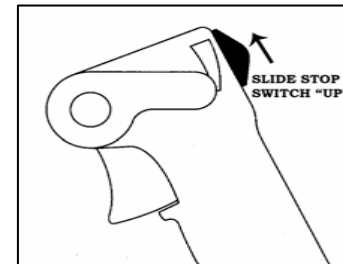
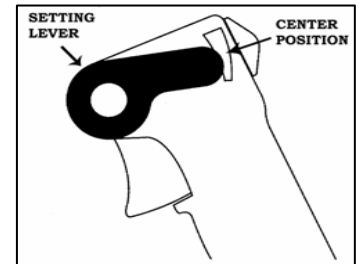

Fig. 30. Stop Switch position.
Fig. 31. Setting Lever position.
- ☐ 5. Slide the Stop switch (Fig. 30) to I “UP” located on the rear of the control handle. Move the setting lever (left side of handle) (Fig. 31) to the center position. STARTING THROTTLE POSITION.